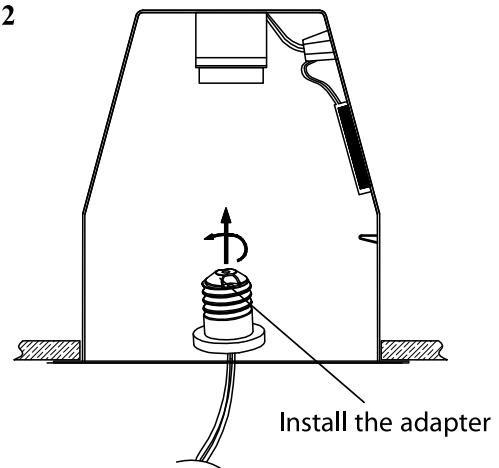

FIG. 3
- Step 4. Connect the two terminals together (see FIG. 3).